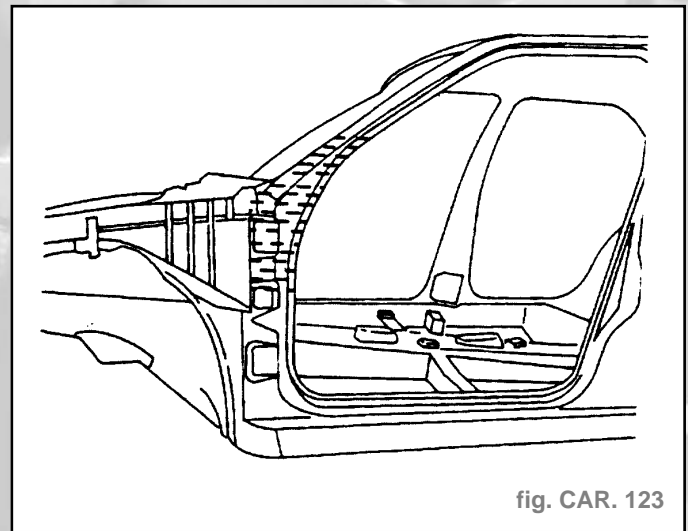

fig. CAR. 123
- Injecter de la mousse expansive (fig. CAR. 123)